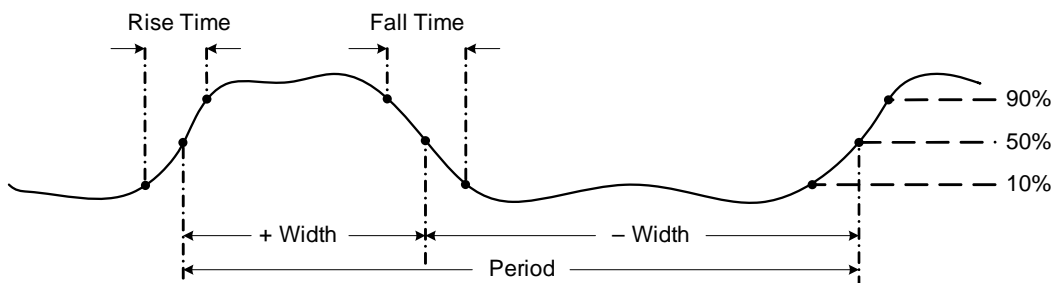

Figure 2-26 Frequency definition
- Frequency is the number of cycles a signal completes each second. Frequency is defined as 1/Period. Period is defined as the time between the middle threshold crossings of two consecutive, like-polarity edges, as shown in **Figure 2-26**.